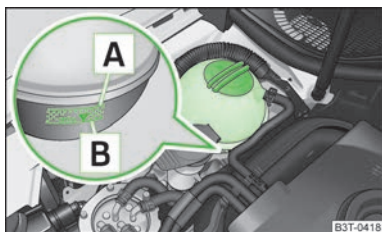

Fig. 135
When refilling, we only recommend you use the same antifreeze written on the antifreeze expansion tank » Fig. 135 on page 163.
- Check the level of coolant in the coolant expansion bottle » Fig. 135. The coolant level when the engine is cold must lie between the [B] (MIN) and [A] (MAX) markings. The level may also rise slightly above the [A] (MAX) marking when the engine is warm.
- Place a cloth over the cap of the coolant expansion reservoir » Fig. 135 on page 163 and unscrew the cap **carefully**.
Do not fill the coolant above the mark [A] (max.) » Fig. 135 on page 163! Excess coolant heats up and then is forced out of the cooling system through the pressure relief valve in the cap.